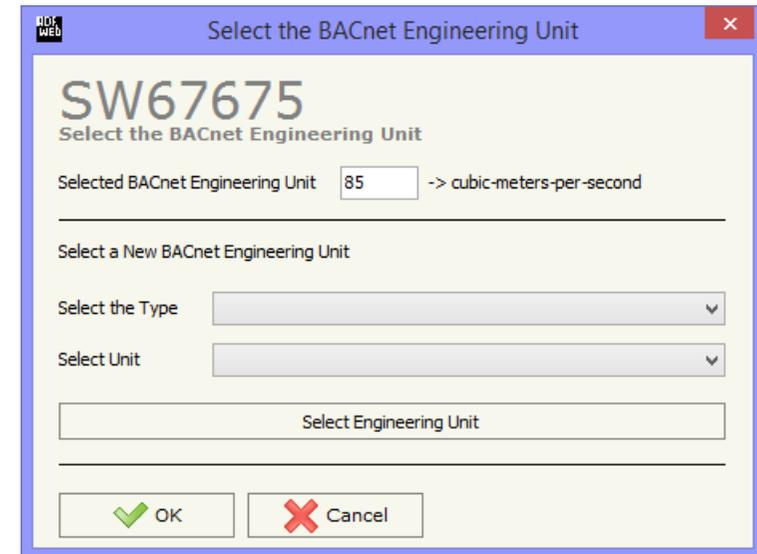

Figure 15: "Select the BACnet Engineering Unit" window
- In the field “**Eng. Unit**”, with double click the window “*Select the BACnet Engineering Unit*” appears (Fig. 15);